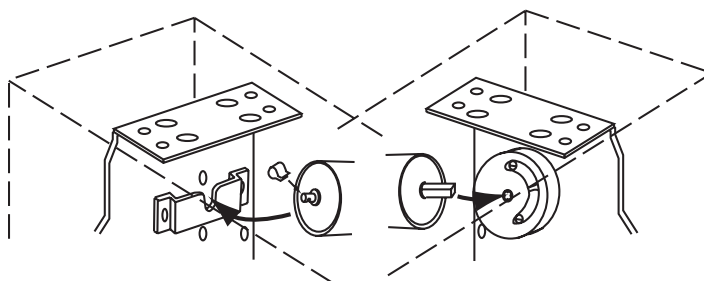

Figure 8
- ① Place operator end of upper roller onto its bracket, then slide notched pin on other end into slot on bracket. Secure with retainer clip (see Fig. 8).